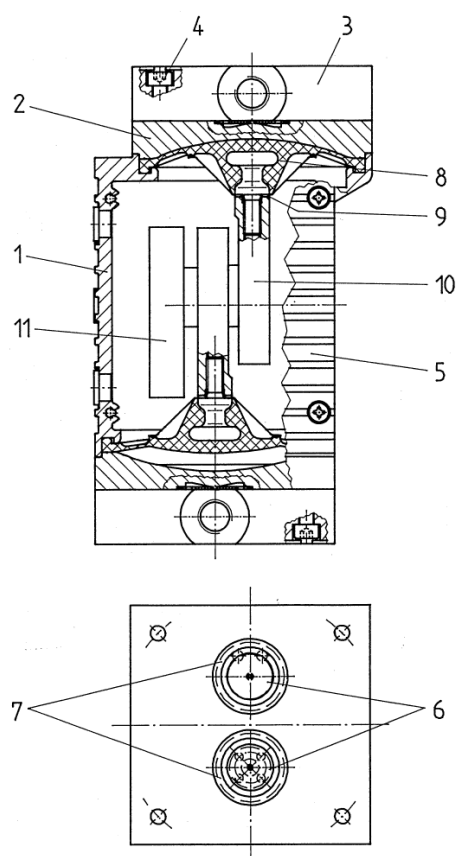

Fig. 2 Figure depicting one part of the pump (applies to all types)
#### Key to figures 2 to 5
Separate the ribbed cover (Fig. 2/4/5, item 3) from the intermediate panel (Fig. 2/4/5, item 2).
Fit the intermediate panel (Fig. 2/4/5, item 2) with the valve plates and sealing rings (Fig. 2/item 6 and 7) as well as the ribbed cover (Fig. 2/4/5, item 3) according to the marks (M) on the case.
Only slightly tighten the bolts (Fig. 2/4/5, item 4) crosswise.
Now manually tighten the bolts (Fig. 2/4/5, item 4).
Affix the cover (Fig. 2/4/5, item 5) to the case.